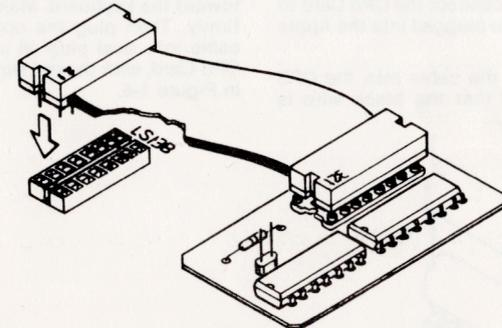

Figure 1-3: New Socket Orientation (Location H12)
2. Insert the PWA Adapter cable connector (MCI02-00211) that came with the CPS Card into the socket at location H12. Insure that connector pin 1 is oriented as shown in Figure 1-3.
- 2e. Insert the PWA Adapter cable connector (MCI02-00211) that came with the CPS Card into the socket at location B5. Insure that connector pin 1 is oriented as shown in Figure 1-3.